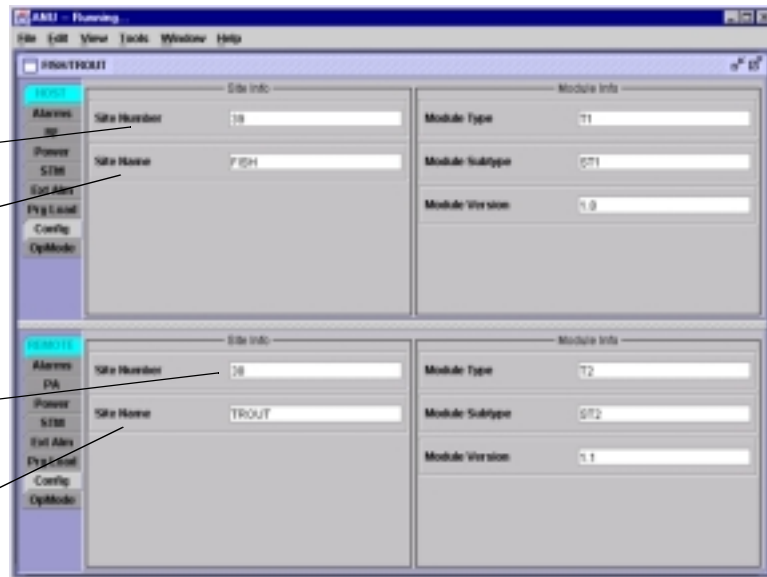

Figure 4-4. HOST and REMOTE Config Displays
1. Click on the **HOST Config** tab and on the **REMOTE Config** tab. The **HOST Config** display and the **REMOTE Config** display will open within the EMS main window as shown in Figure 4-4.
2. Right-click on the **HOST Site Number** (see Figure 4-4). The **Site Number** pop-up screen will open as shown in Figure 4-4. Enter any odd number between 33 and 61 and then click on OK to close the screen and make the changes take effect.
3. Right-click on the **HOST Site Name** field (see Figure 4-4). The **Site Name** pop-up screen will open. Enter a unique name for the HOST. The name may be up to 32 characters long and must not contain any spaces. The name may include numbers, punctuation, and upper or lower case letters and must always begin with a letter. Click on OK to close the screen and make the changes take effect.
4. Check the **REMOTE Site Number** field (see Figure 4-4). The REMOTE Site Number does not have to be entered. When the HOST Site Number is entered, the system will subtract 1 from the HOST Site Number and automatically enter the result for the REMOTE Site Number.
5. Right-click on the **REMOTE Site Name** field (see Figure 4-4). The **Site Name** pop-up screen will open. Enter a unique name for the REMOTE. The name may be up to 32 characters long and must not contain any spaces. The name may include numbers, punctuation, and upper or lower case letters and must always begin with a letter. Click on OK to close the screen and make the changes take effect.